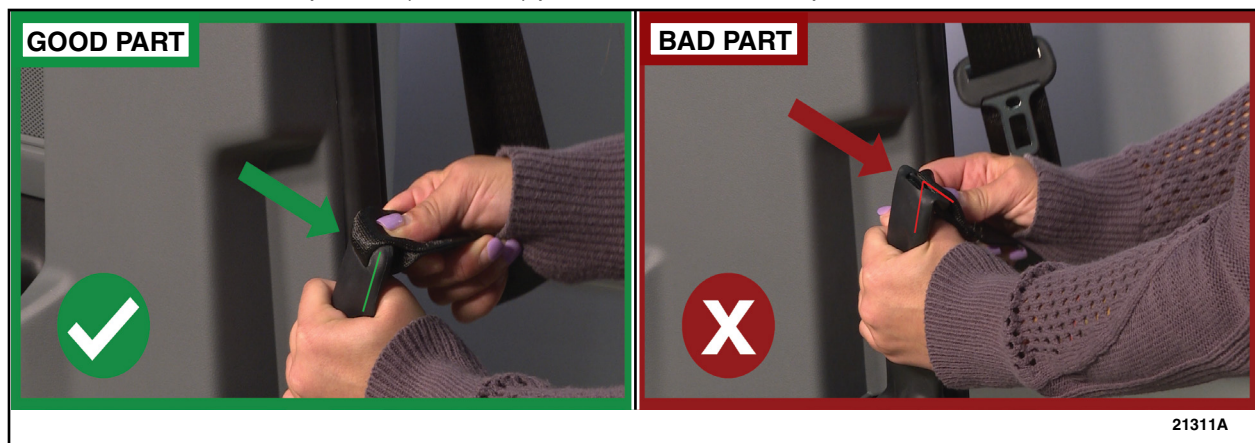

FIGURE 4
4. Grab the seatbelt webbing just above where the seatbelt webbing loops through the soft rubber trim sleeve and attempt to bend the rubber trim sleeve towards itself as shown in Figure 4 (Bad Part). The seatbelt rubber trim sleeve should **NOT** bend or fold over.